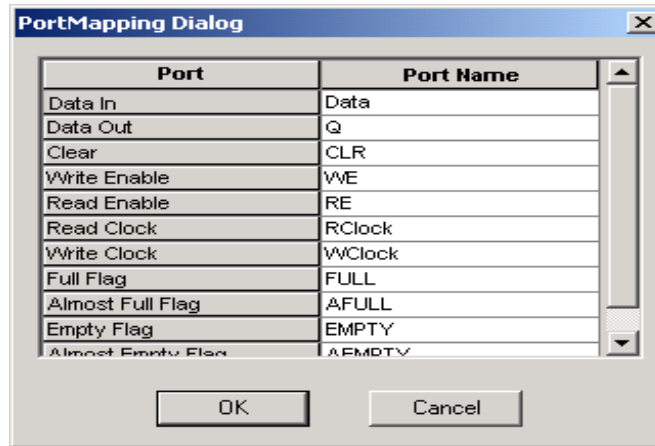

Figure 10 • Input PerPin FIFO Port Mapping
- Edit the Port Mapping list if other than default names are desired (Figure 10 on page 6).